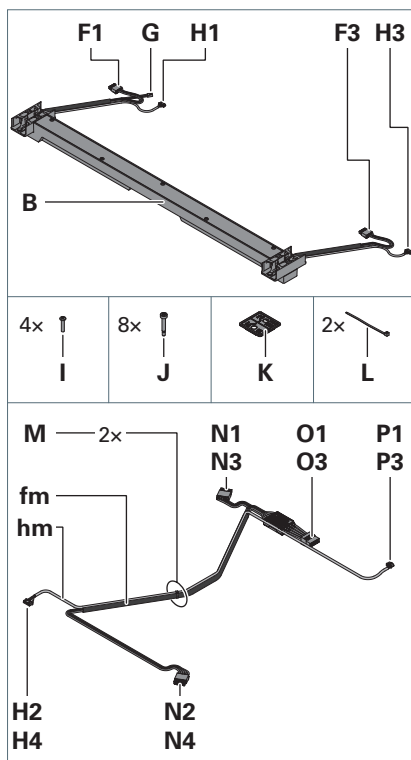

Fig. 2: Supplementary pack adapter H.
- Do not remove the components from the supplementary pack until they are required in the respective assembly step, see Fig. 2.